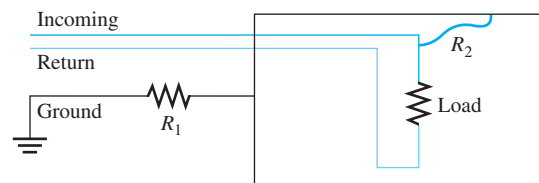

FIGURE P15.43 Example of a fault ground.
- 15.43** (A) As an instrument ages, the connection between the ground and the instrument's metal case may decay and generate a resistance, for example $R_1 = 100 \Omega$ in Figure P15.43. Assume that the incoming line voltage is 120 V and that there is a broken point that connects to the instrument's metal case, and $R_2 = 100 \Omega$. Please use the figure to explain the importance of dependable grounding in the building's wiring system, assuming a body's resistance to be $R_3 = 500 \Omega$.